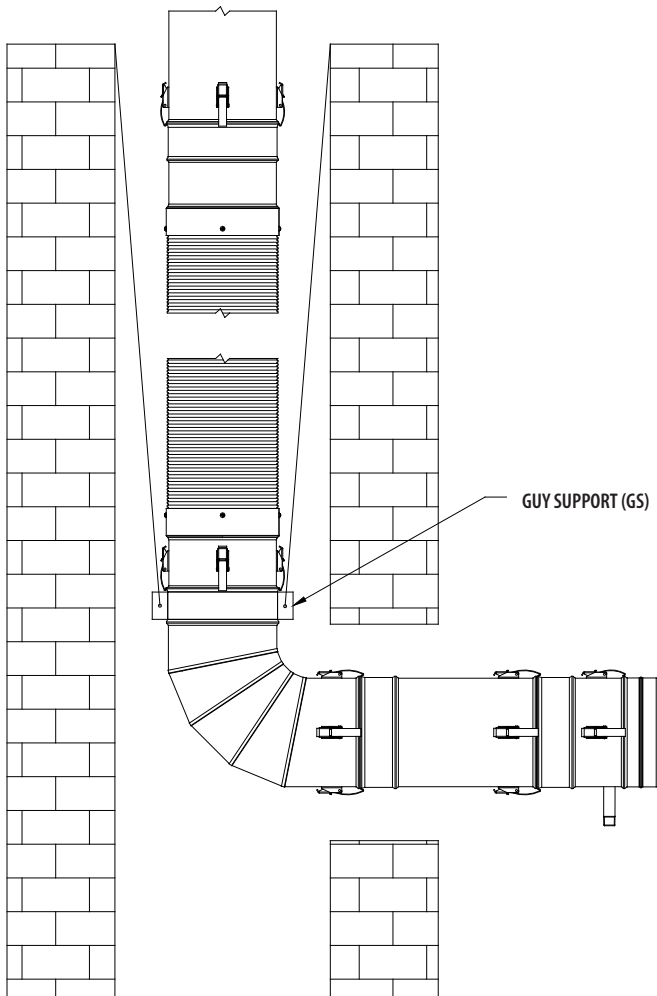

Figure 25- SecureSeal Flex Adapter - Elbow in masonry
- 4- The SecureSeal Flex must stay within the masonry chimney; however the Elbow or other SecureSeal components will extend beyond the masonry chimney. (**Figure 25**)